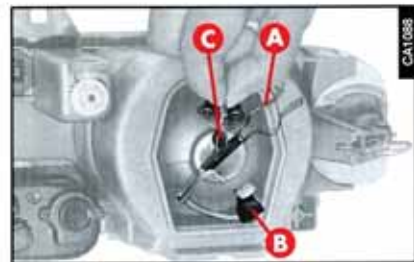

fig. 14
- Release the bulb holder catch (A-fig. 14).
- Withdraw the terminal (B-fig. 14) of the supply cable.
- Remove and replace the bulb (C-fig. 14).